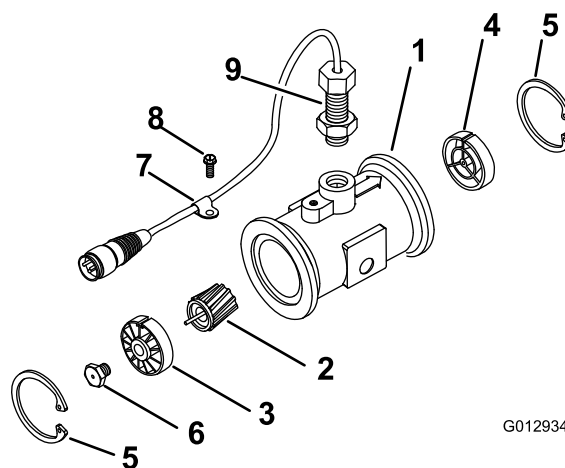

Figure 65
- Remove the retainer ring on the upstream side (Figure 65).